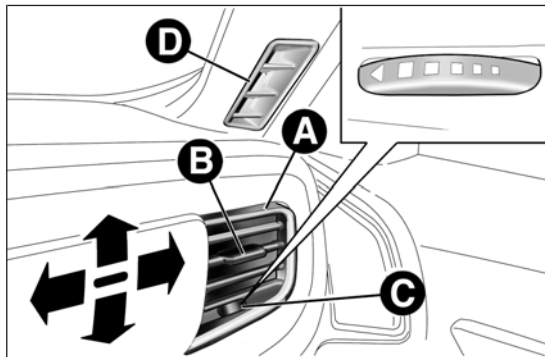

fig. 31
- use device B to adjust the diffuser to the required position fig. 31;